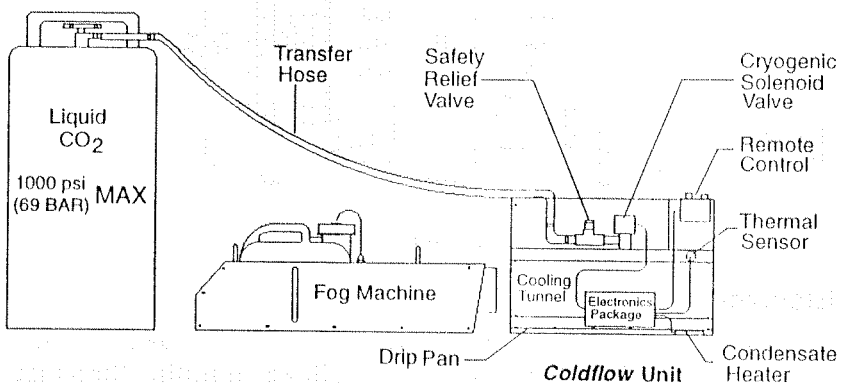

Figure 2.1: The *Coldflow* System
6. The condensed water collects in the drip pan, and is evaporated by the condensate heater. See Figure 2.1.